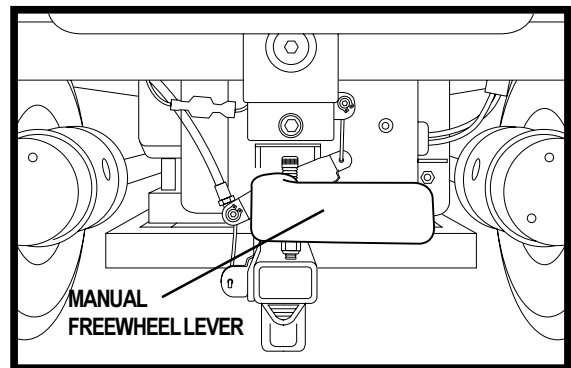

Figure 6. Drive Mode (Drive Engaged)
2. Rotate the manual freewheel lever counterclockwise for drive mode (drive motors engaged.) See figure 6.